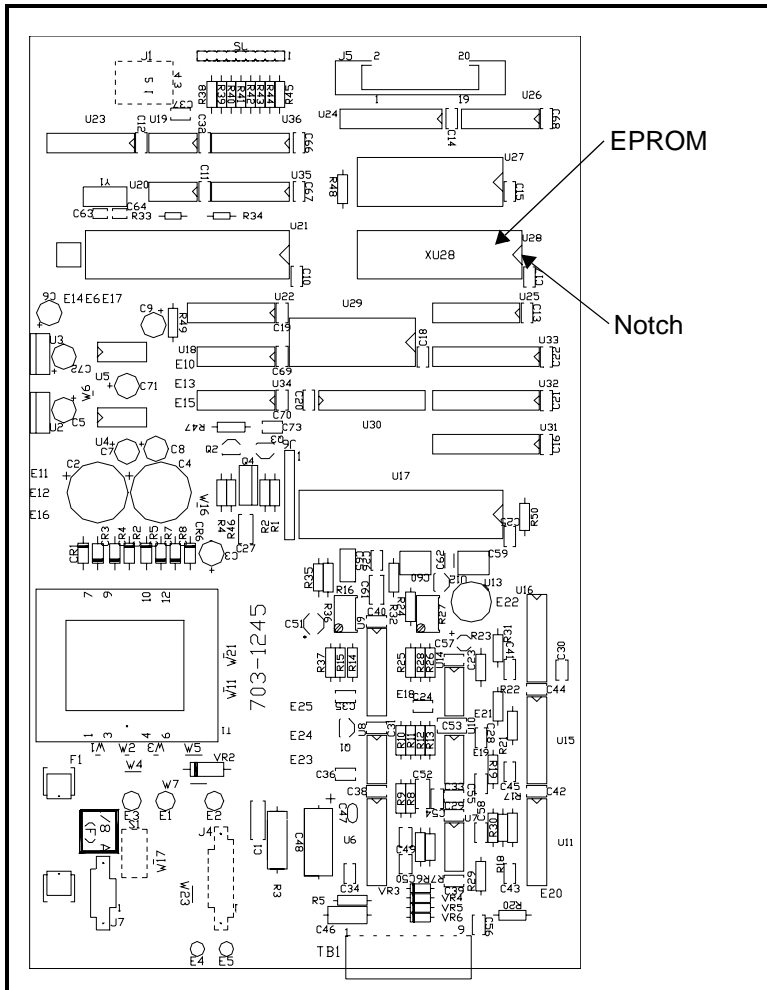

Figure 4-1: EPROM and Notch on 703-1245
1. Refer to Figure 4-1 on page 4-10 to locate the EPROM (labeled U28) on the #703-1245 circuit board.
3. Place the new EPROM in the socket labeled U28, making sure the notch on the EPROM matches the notch on the socket (see Figure 4-1 on page 4-10).